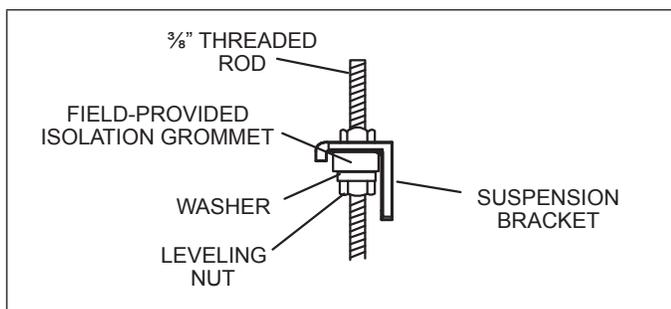

Figure 16. Isolation Grommet
- If necessary, install a field-provided isolation grommet as shown in “Figure 16. Isolation Grommet” to prevent transmission of vibration from unit to structural ceiling.
- The unit is factory-configured for the supply air to be delivered from the front and the return air filter at the rear of the unit. The return air filter location can be relocated in the field for bottom return air filter access, if more convenient. See “Figure 16. Isolation Grommet”.